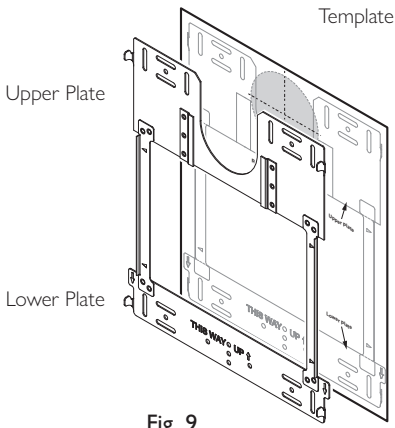

Fig. 9
1. Align the Assure FGHR template on the wall (Fig. 9) and mark the positions of suitable fixing points on the upper and lower plates of the wall frame.